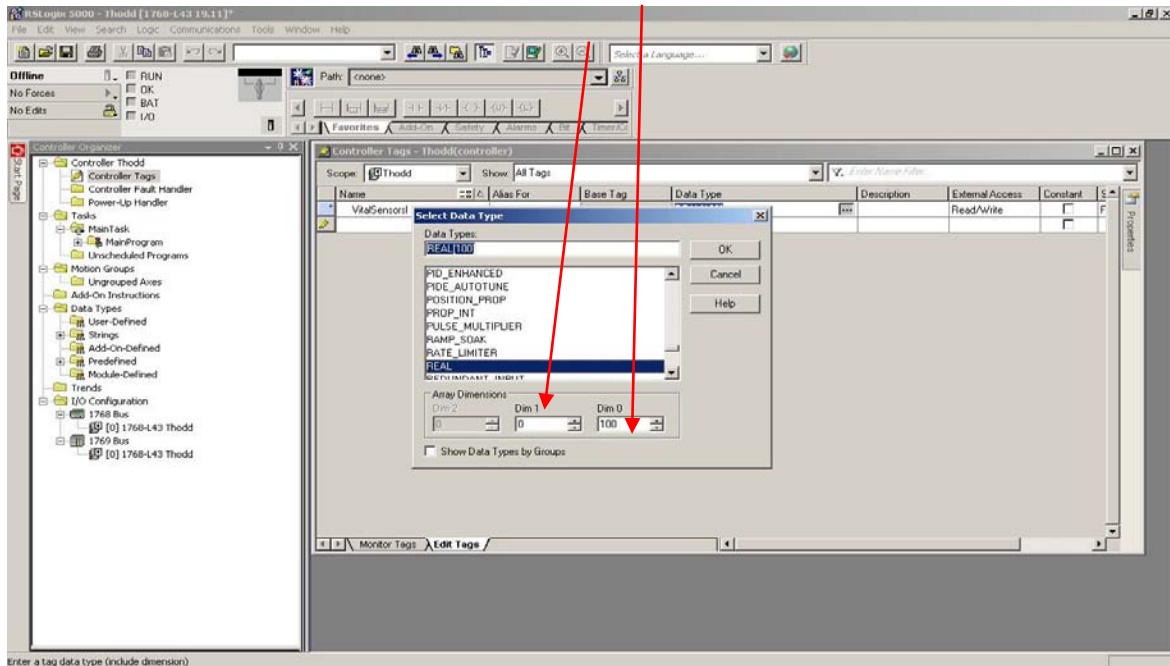

Figure: 9
7. Create Tag **VitalSensorsIn** for input, REAL, 100 elements. See *Figure 9* below.
8. Create Tag **VitalSensorsOut** for output REAL, 100 elements. See *Figure 9* below.